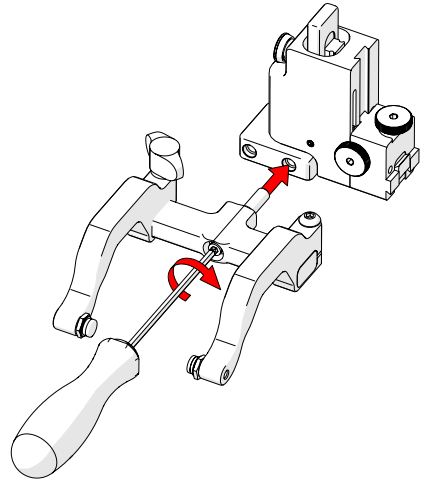

Fig. 61 - Screw into threaded hole
7. Screw the yoke to the probe holder (Fig. 61).